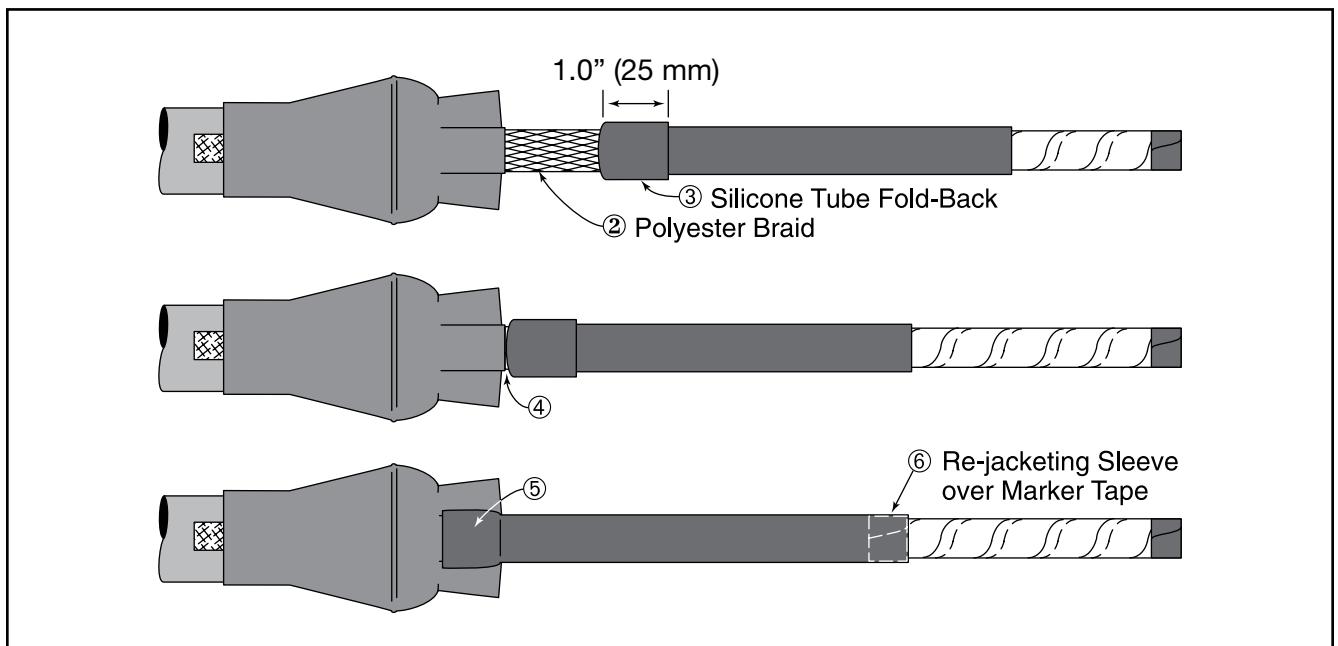

Figure 8
- 4.6 Slide re-jacketing sleeve until inner polyester braid is adjacent to breakout boot finger (② Figure 8).
- 4.7 Fold outer silicone tubing back on itself for 1" (25 mm) and trim off exposed polyester braid (③ Figure 8).
- 4.8 Slide re-jacketing sleeve assembly down until folded tube contacts edge of breakout boot finger (④ Figure 8).
- 4.9 Pull folded silicone tube section down onto breakout boot finger (⑤ Figure 8).
Note: Re-jacketing tube end should align with upper edge of installed marker tape (⑥ Figure 8). Minor tube adjustments can be made as needed.